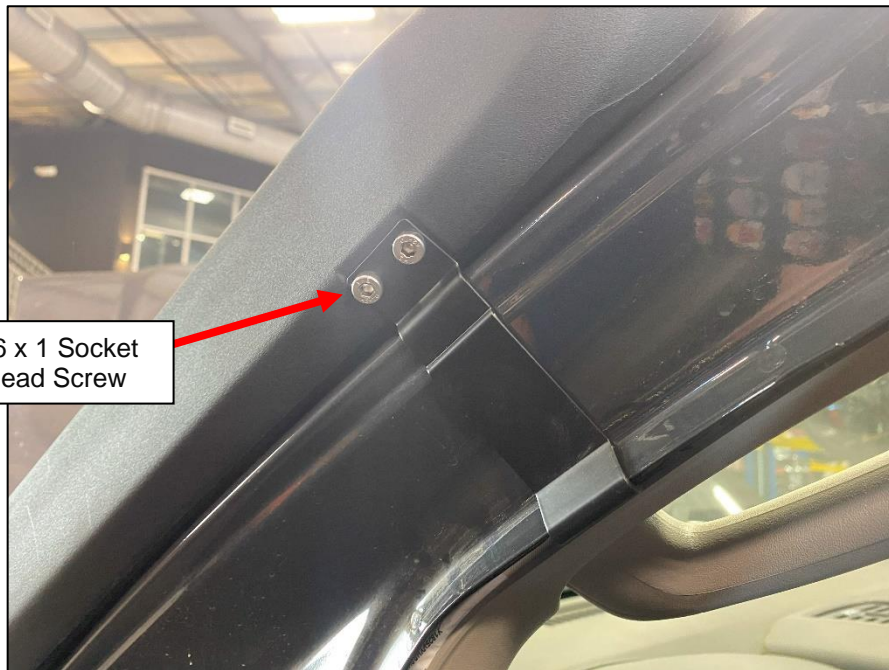

Figure 12
21. Once the Snorkel Upright has been positioned, locate the A-Pillar Bracket. Pull back the weather seal inside of the driver side door. Install the A-Pillar Bracket onto the pinch weld and position it to line up with the Snorkel Upright mounting holes. *Figure 12.*
22. Locate (2) two M6 x 1 Socket Head Screws, 10mm. Install them through the A-Pillar Bracket into the Snorkel Upright. Tighten them with an Allen/Hex Key. Seen above in *Figure 12.*